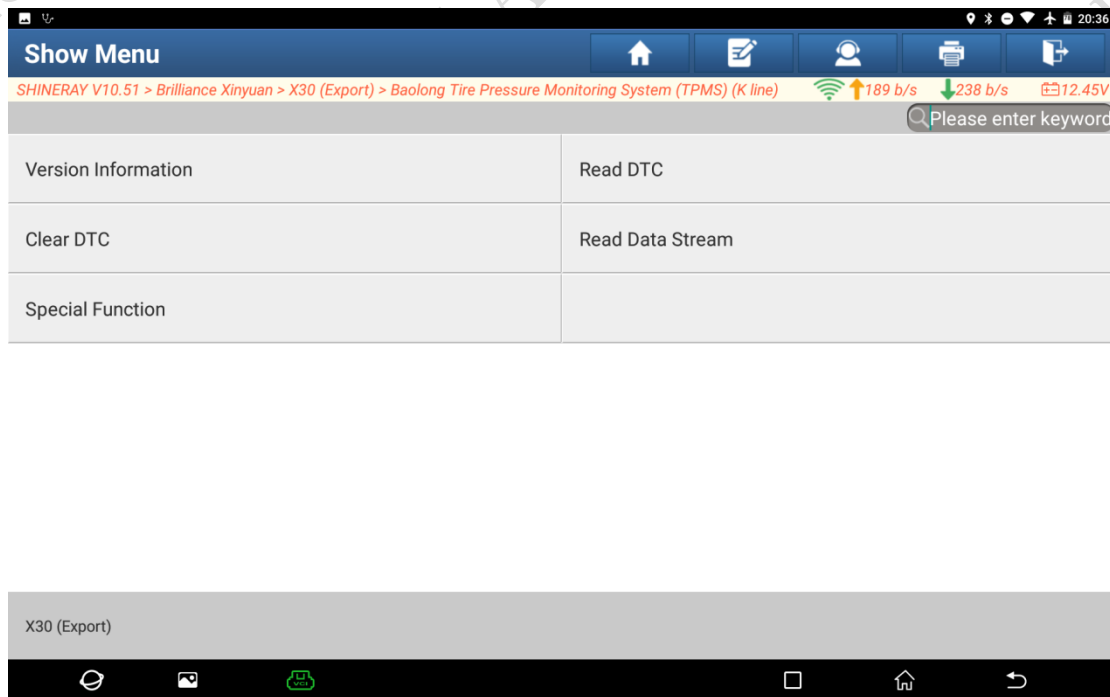

Figure 5
- Choose [Special Function] on the diagnostic function interface and continue, as shown in Figure 5.